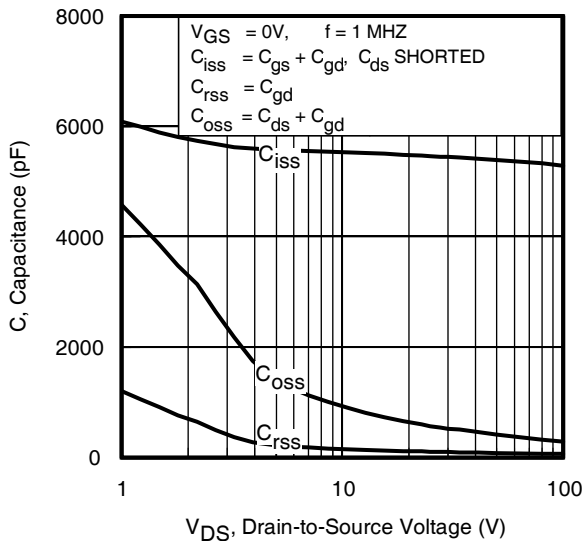
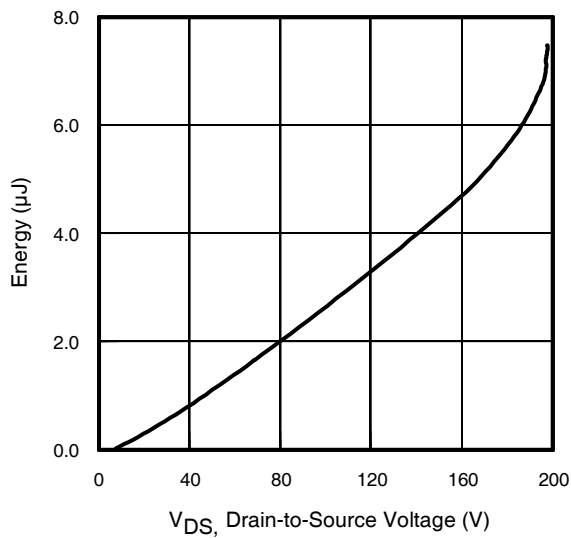

Fig 5. Typical Capacitance vs. Drain-to-Source Voltage
Fig 11. Typical C_{OSS} Stored Energy
| C _{iss} | Input Capacitance | — | 5380 | — | pF | V _{GS} = 0V V _{DS} = 50V f = 1.0MHz (See Fig.5) V _{GS} = 0V, V _{DS} = 0V to 160V ⑥ (See Fig.11) V _{GS} = 0V, V _{DS} = 0V to 160V ⑥ |